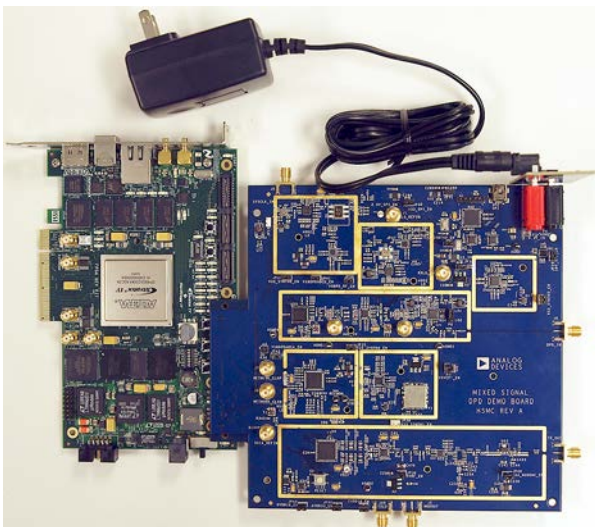

Figure 6. Altera Stratix IV and AD-MSDPDA-9434/AD-MSDPDA-6641
- b. If the Altera Stratix IV development kit is being used, connect the Altera board to the AD-MSDPDA-9434/AD-MSDPDA-6641 board via the HSMC connectors (see Figure 6).